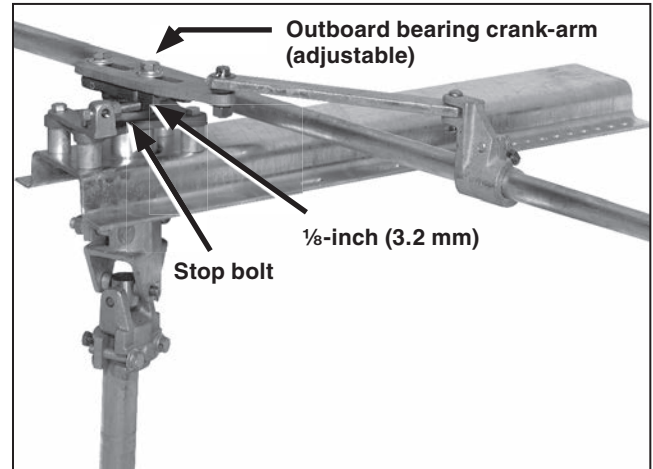

Figure 35. Verify the crank-arm is in the overtoggle position and against the stop bolt.
- (b) Each switch-pole toggle mechanism should lie against its closed stop. The outboard bearing crank-arm(s) should be in the over-center toggle position and abut the stop bolt(s). See Figure 35 on page 27.
- (f) When an S&C Type AS-1A Switch Operator, S&C Type LS-2 Switch Operator, or an S&C 6801M Automatic Switch Operator is used, verify there is a clearance of approximately $\frac{1}{8}$ -inch. See Figure 35. This clearance prevents bending of the stop bolt during power operation. Adjust the stop bolt to provide this clearance after any other adjustments are made to achieve full closure, stroke, or toggle action. Be sure to retighten the locknut when adjustment is complete.